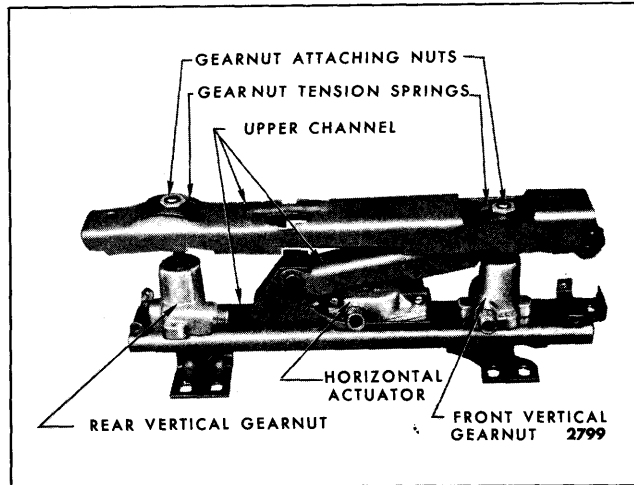

Fig. 15-14—Six-Way Seat Adjuster - "B, C & E" Styles
4. At top of adjuster, remove front and rear vertical gearnut attaching nuts and tension springs (Fig. 15-14).
5. Lift front of adjuster upper channel upward; then, remove screws securing horizontal actuator to adjuster upper channel assembly (Fig. 15-14) and remove actuator from adjuster.
7. If front vertical gearnut is being replaced with a new part, transfer gearnut washer to new gearnut assembly (Fig. 15-14).
5. At top of adjuster, remove both vertical gearnut attaching nuts and tension springs (Fig. 15-14).
7. If rear vertical gearnut is being replaced with a new part, transfer gearnut washer to new gearnut assembly (Fig. 15-14).
4. At top of adjuster, remove both vertical gearnut attaching nuts and tension springs (Fig. 15-14). Lift front of adjuster upper channel upward; then, remove horizontal actuator attaching screws (Fig. 15-14) and remove horizontal actuator from adjuster.